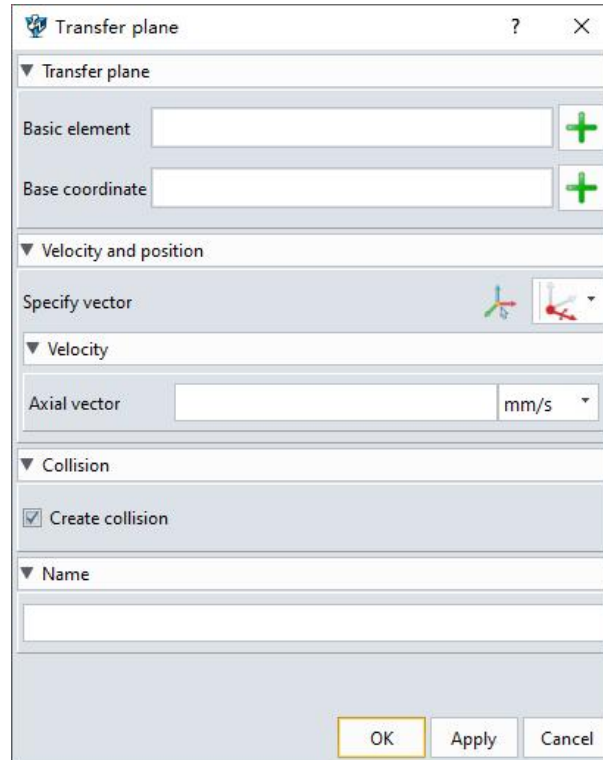

Figure 3-12: Trasfer plane
- Vertical: Specify the speed magnitude perpendicular to the transmission direction.(Figure 3-12)